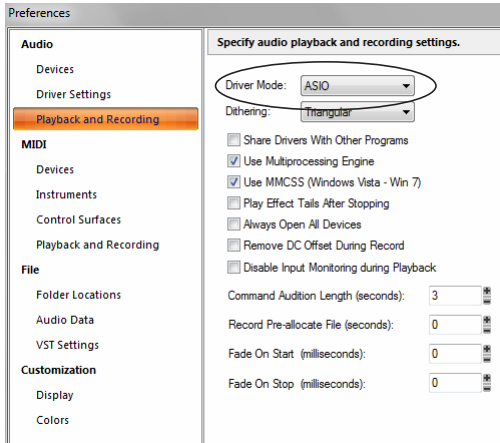

Figure 7-7: Enabling the MOTU Audio ASIO driver in SONAR.
**5** Check the Track16 inputs and outputs that you wish to use and uncheck the ones you don't, as shown in Figure 7-7 on page 45.